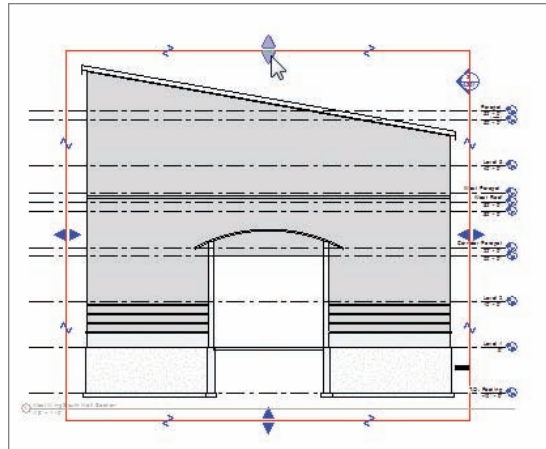

FIGURE 14.12 Stretching the crop region so you can see the entire view
5. With the view activated, you can work on it just as if you had opened it from the Project Browser. Select the crop region, as shown in Figure 14.12.